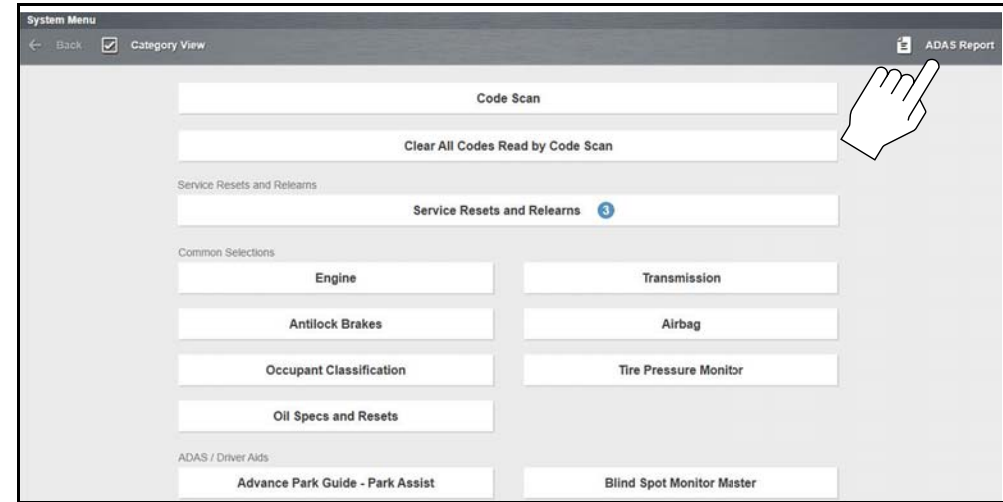
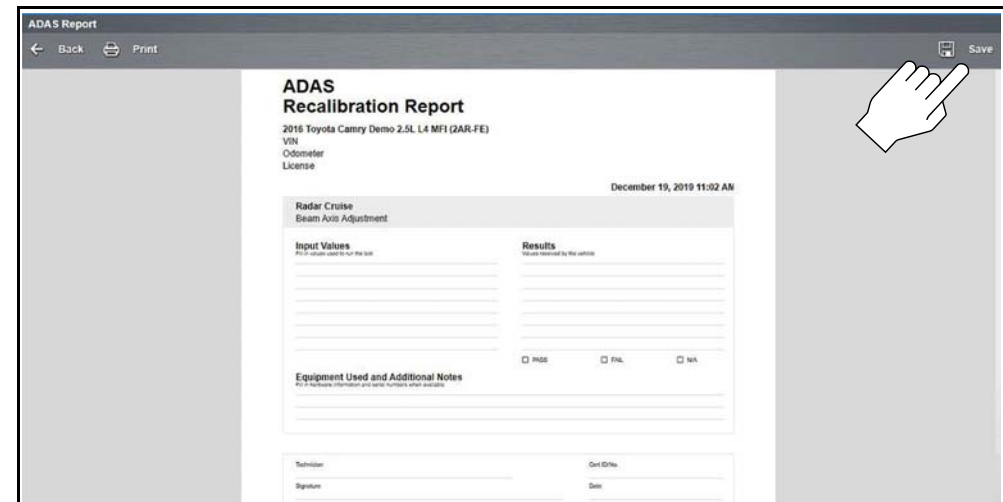

Figure 18-2
Figure 18-3
8. From the upper toolbar, select **ADAS Report** (Figure 18-2). The ADAS Report form is displayed (Figure 18-3).
9. Select **Save** (Figure 18-3) to save the report within the diagnostic tool and automatically upload it to the Snap-on Cloud.